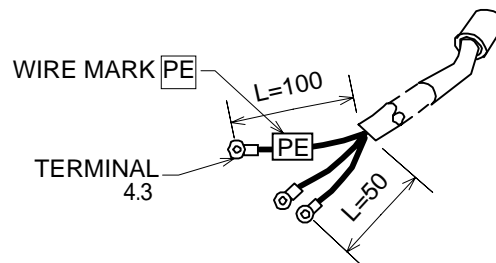

Fig.5-8 Power Cable
- (1) Connect the power cable terminal to the terminal board of user's power distribution board for equipment. The wire with [PE] mark is for earth use and other remaining two wires are for single phase AC power. (See Fig. 5-8, Table 5-1)